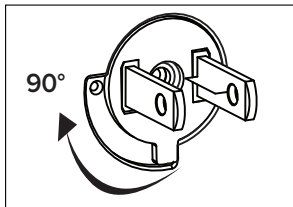

Figure 8-D (excludes model COPDLG)
- Plug the alarm into the outlet. Note: If the outlet is mounted horizontally (sideways), you will need to rotate the adapter 90°. (Figure 8-D) (excludes model COPDLG)